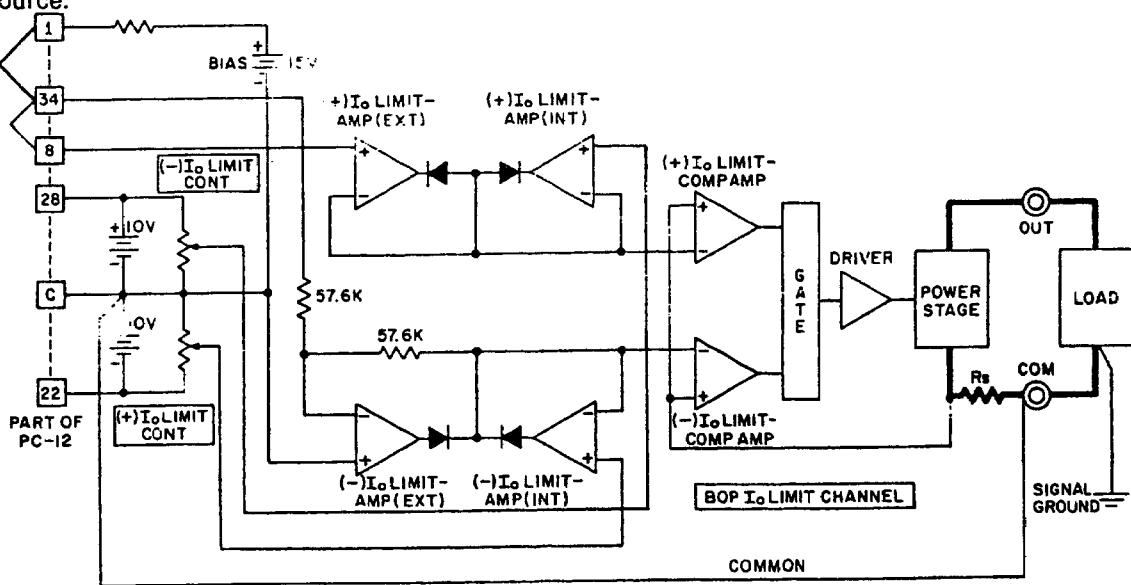

FIG. 3-20 LOCAL (FRONT PANEL) CONTROL OF THE BOP CURRENT LIMIT CIRCUIT
**3-32** The output current is sensed by the current sensing resistor ( $R_s$ ). The voltage drop across  $R_s$  is proportional to the output current value, and is amplified by a current sensing amplifier (not shown in FIG. 3-20) and is applied at the input to the (-)  $I_o$  LIMIT COMPARISON AMPLIFIER and to the (+)  $I_o$  LIMIT COMPARISON AMPLIFIER. In the local (front panel) control mode, as well as in the external control mode, a 0 to 10 volt signal, applied at the inverting inputs of the  $\pm I_o$  LIMIT COMPARISON AMPLIFIERS, will control the current limit point over the entire output current range of each BOP model. For the internal (front panel) control mode, the control signal is derived across both 10 volt reference sources, applied by means of the  $\pm I_o$  LIMIT controls to the internal  $\pm I_o$  LIMIT AMPLIFIERS (both connected as 1:1 voltage followers) and directed to the respective inputs of the  $\pm I_o$  LIMIT COMPARISON AMPLIFIERS. In the internal control mode, both  $\pm I_o$  LIMIT AMPLIFIERS (EXT) are biased "off" by means of the 15V BIAS source.